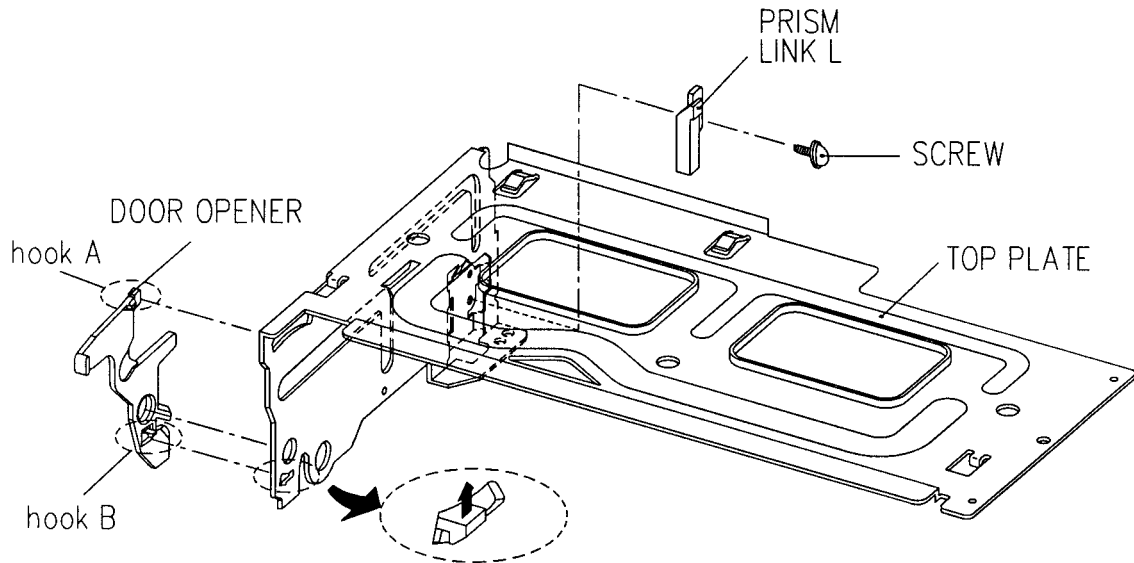

Fig. 3-4 DISASSEMBLY OF THE TOP PLATE
- d. Remove one screw holding the PRISM LINK L. (Fig. 3-4)
- e. Release the hook B by pushing it in the direction of the arrow and remove the DOOR OPENER. (Fig. 3-4)